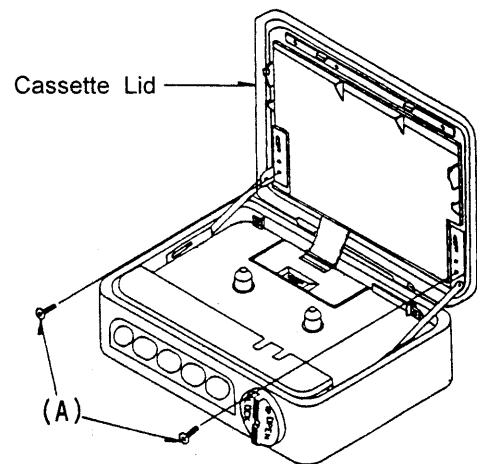

Fig.2
- Remove the screws (A) X 2 (See Fig.2).